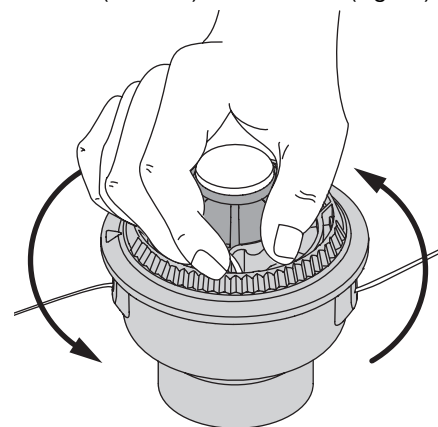

Fig. 21
8. Hold the outer spool. Wind the inner reel counterclockwise until approximately 4 inches (102 mm) of line remain (Fig. 21).